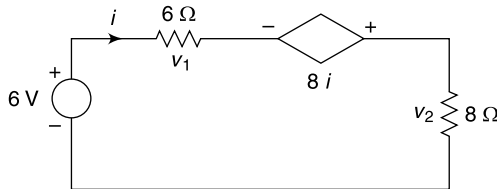

Fig. 4.142 Circuit of Ex. 4.111
4.111 Applying kirchhoff's voltage law find the values of current i and the voltages v_1 and v_2 in the circuit shown in Fig. 4.142.
Applying Kirchhoff's voltage law in Fig. 4.142